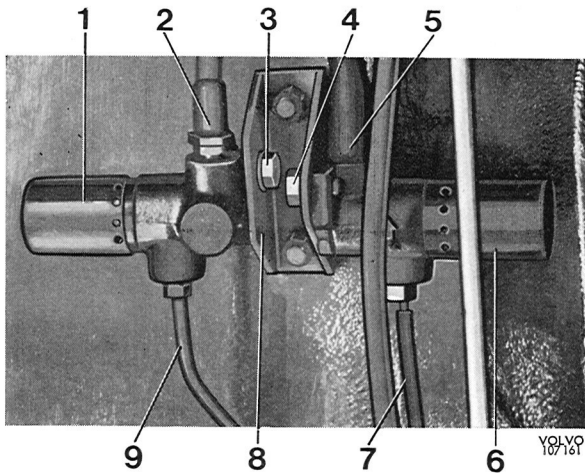
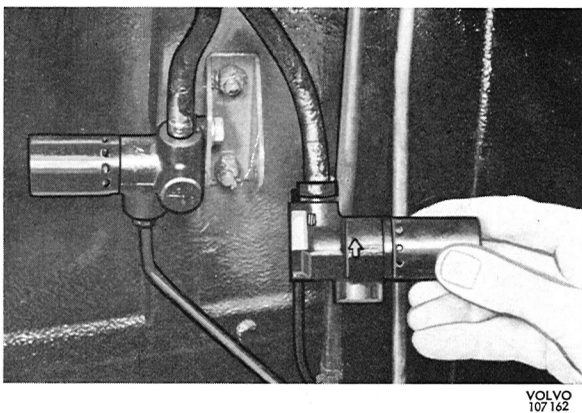

Fig. 5-53. The brake valves installed
Fig. 5-54. Removing brake valve
1. Unscrew and plug the connection (9, Fig. 5-53) of the brake pipe. Loosen the brake hose (5) a maximum 1/4 turn at the valve. Remove the attaching screw and the valve from the brake hose, see Fig. 5-54.
2. Screw the new brake valve onto the brake hose with new seal, compare Fig. 5-54. Position the valve and check that there is no tension in the hose. Install the attaching screw and connect the brake pipe. Tighten the connection. Bleed the brake system.